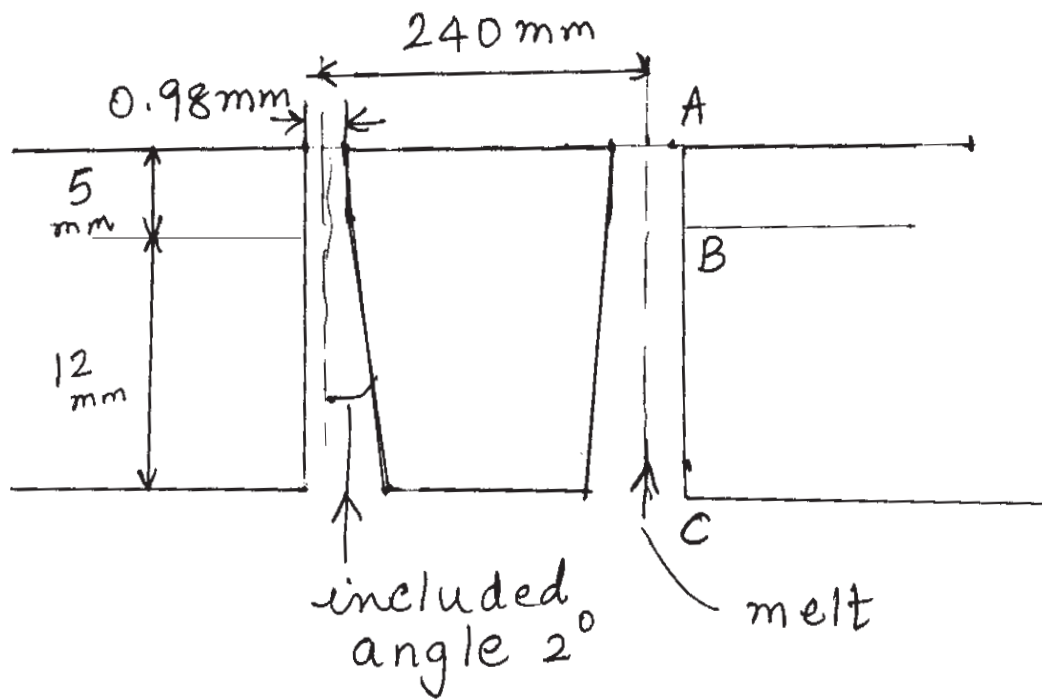

FIG. 3
b) Find pressure drop through the exit region of the die shown in fig.3. Calculate the bubble dimensions assuming no inflation or draw down  $Q = \text{extruder output} = 95 \times 10^{-6}$  m3/s  $\tau = 2.4 \times 10^5$  N/m2;  $\lambda = 2.24 \times 10^5$  pa - s  $r_R = 5.5$ . Material : LDPE  $n = 0.33$  [10]